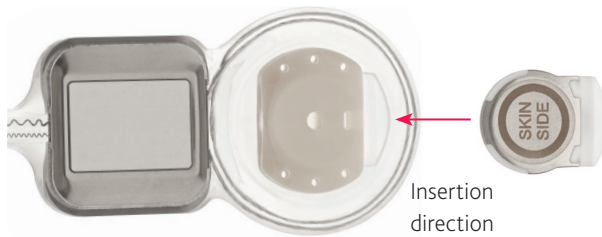

Figure 28: Replacement magnet cassette insertion direction
- the engraving SKIN SIDE (or MRI) is facing up – see *Figure 28* below